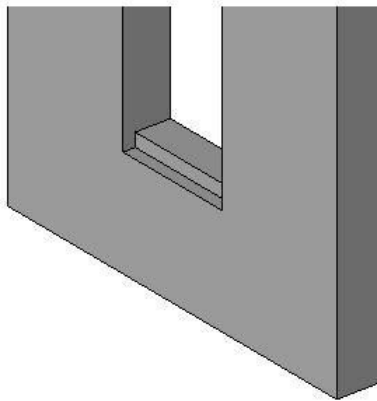

Figure 22. The finished lintel and sill voids.
20. From the Modify ribbon, click the Cut tool, then select the Wall followed by the void. The void for the lintel and sill should now appear in the wall as shown in Figure 22.